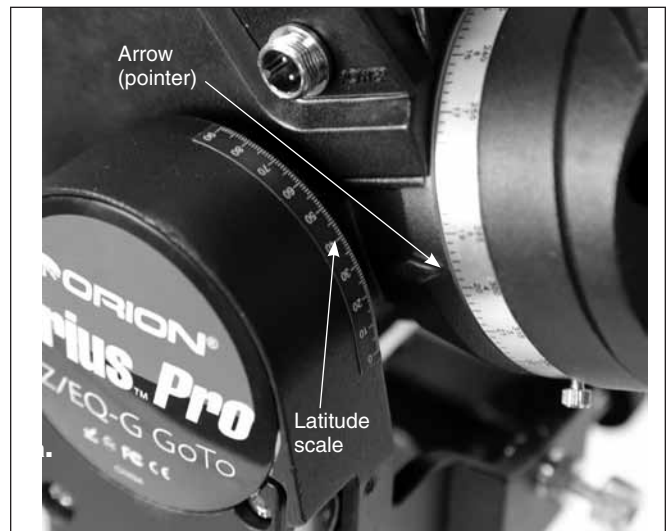

Figure 15. In EQ mode, line up your latitude on the scale with the pointer (arrow).
3. Refer to the latitude scale and pointer on the right side of the mount (**Figure 15**). (If you don't know your latitude, consult a geographical atlas or look it up on the internet.) For example, if your latitude is 35° North, set the pointer to 35. The latitude setting should not have to be adjusted again unless you move to a different viewing location some distance away.